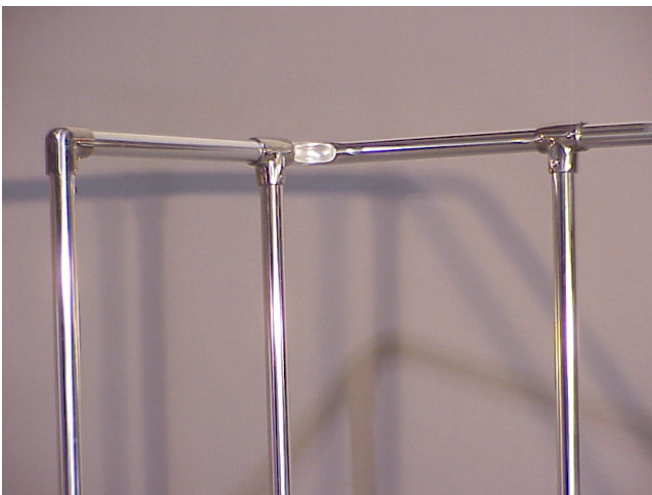

Figure 5
Step 6 - Next, assemble the remaining part of the handrail as follows: The Elbow fitting should be attached to the top of the last leg of your rail. Slide the remaining Tee fitting onto the elbow shaped rail piece on the longest side (slide it all the way into the corner as far as it will go). Next, attach the elbow rail piece unto the legs and into the Tee fitting. Some minor adjusting might be required to make everything look straight and square. Once all fittings and rails are in place, tighten all set screws. **See Figures 5 & 6**